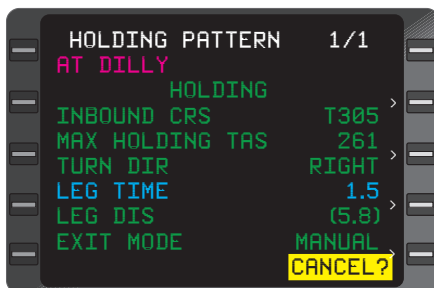

Figure 2-73
- **HOLDING:** indicates the system has entered the Holding Pattern. (Figure 2-73)
The inbound holding course in whole degrees. This field can be True or Magnetic according to the display mode selected by the TRUE/MAG switch input. A **T** appears if in the True mode (Figure 2-73). The **T** field will be blank if the system is Magnetic mode.
This field is computed based on configuration module max holding indicated airspeed and worst case winds. It represents the maximum true airspeed in the holding pattern that will assure that the aircraft remains in protected airspace. (Figure 2-73)
RIGHT indicates the standard default holding pattern turn direction. The non-standard **LEFT** turn can be accessed using the **BACK** Key when the cursor is over this field. (Figure 2-73)
Holding Pattern inbound leg time in minutes and tenths (1.0 to 9.9). (Figure 2-73)
Holding Pattern inbound leg distance in nautical miles (1.0 nm to 50.0 nm). (Figure 2-73)
The **MANUAL** default indicates the system will stay in the holding pattern indefinitely. Using the **BACK** Key with the cursor over this field **AUTO** can be selected if the **ENT** key is pressed. The system will then execute a holding pattern entry and exit the next time crossing the fix waypoint. (Figure 2-73)
Used to cancel a holding pattern. (Figure 2-73)